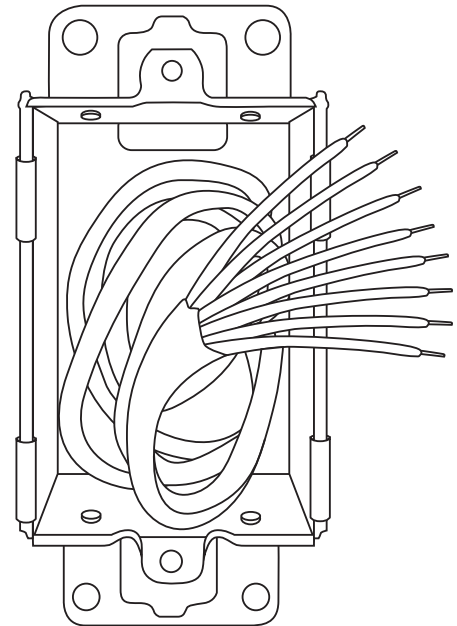

Fig. 4 — Coil Excess Wiring
6. During thermostat installation provide sufficient excess wiring behind the mounting plate. Coil the wiring creating a service loop and place in mounting box or behind the wall to remove strain against the terminal strip. See Fig. 4.
6. During thermostat installation provide sufficient excess wiring behind the mounting plate. Coil the wiring creating a service loop and place in mounting box or behind the wall to remove strain against the terminal strip. See Fig. 4 on page 3.